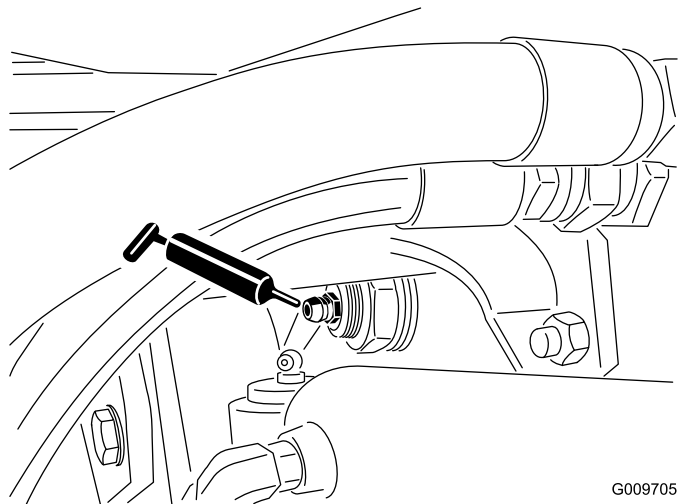

Figure 50
- Rear axle pivot bushings (2) (Figure 50)